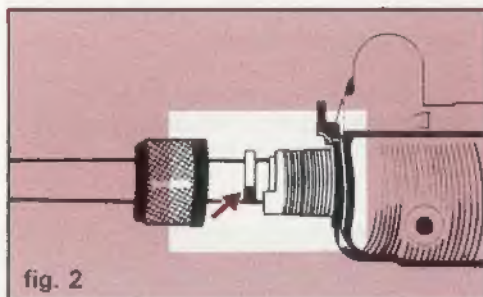

fig. 2
1. Insert barrel into place. Make sure that the FLATS on the barrel line up with the FLATS on the barrel housing protrusion. (fig. 2).